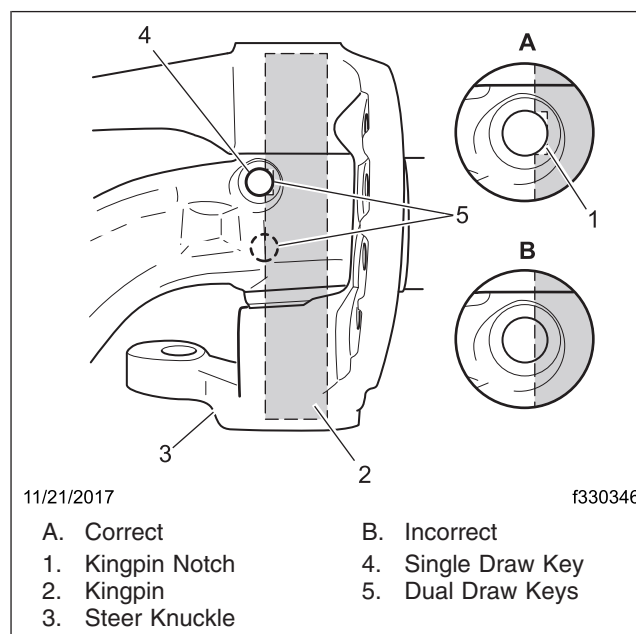

Fig. 23, Knuckle Vertical Play
30. When vertical play adjustment is correct, align the draw key opening and pin flat alignment. See Fig. 23.